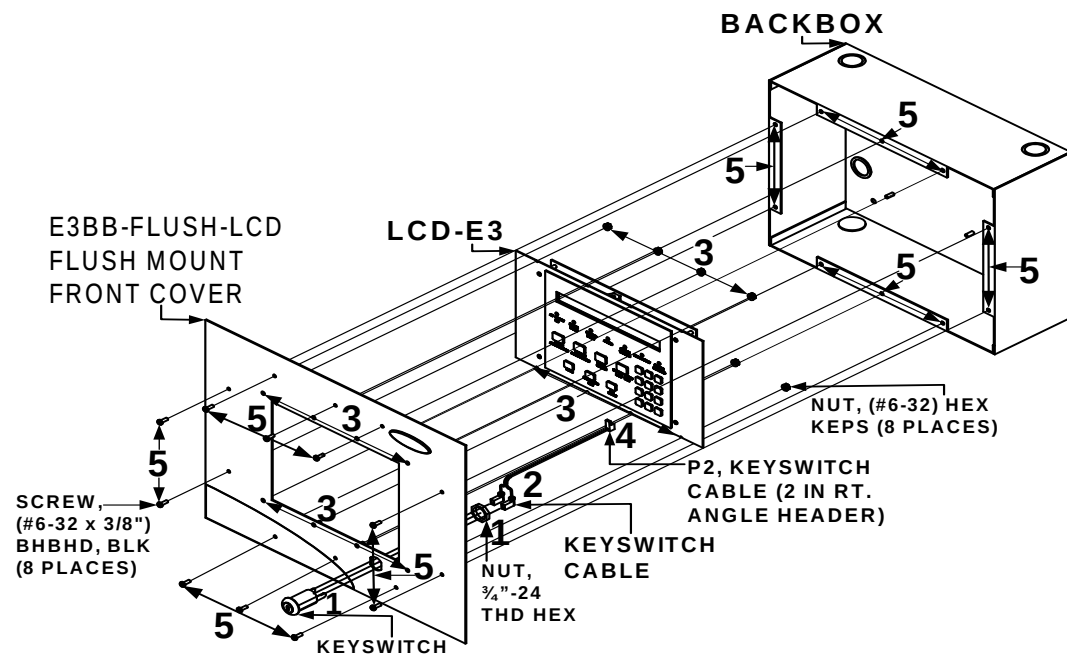

Figure 2.5.3.2.1 E3BB-FLUSH-LCD, CAB A2, Remote Flush Annunciator Backbox Installation
6. Attach the E3BB-FLUSH-LCD Flush Mount Front Cover to the Backbox and secure with eight (8), screws (#6-32 x 3/8" PHBHD, BLK) in the eight-hole mounting pattern as shown in Location 5 of Figure 2.5.3.2.1.